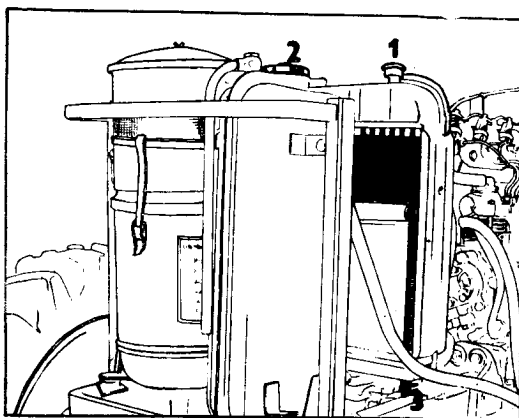

Fig. 10
1. Coolant filling orifice in the radiator (Fig. 10/1).
3. Water drain tap from the radiator (Fig. 10/3).
18. Power assisted steering device oil filling orifice (Fig. 10/2).